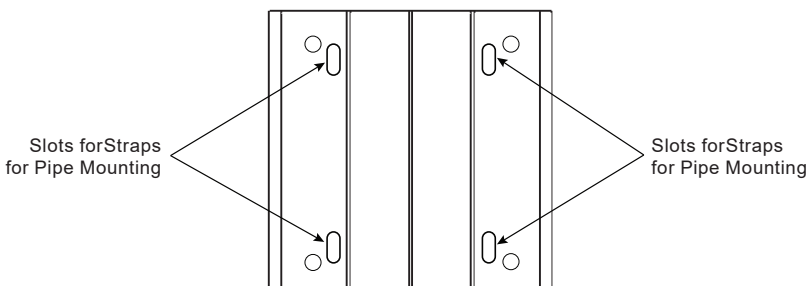

Fig. 10
4. If necessary, you can rotate the mounting bracket in 90° increments to accommodate the final orientation of the transmitter. From inside the enclosure, remove the 4 screws holding the bracket. Rotate the bracket and replace the screws. See Figure 10.